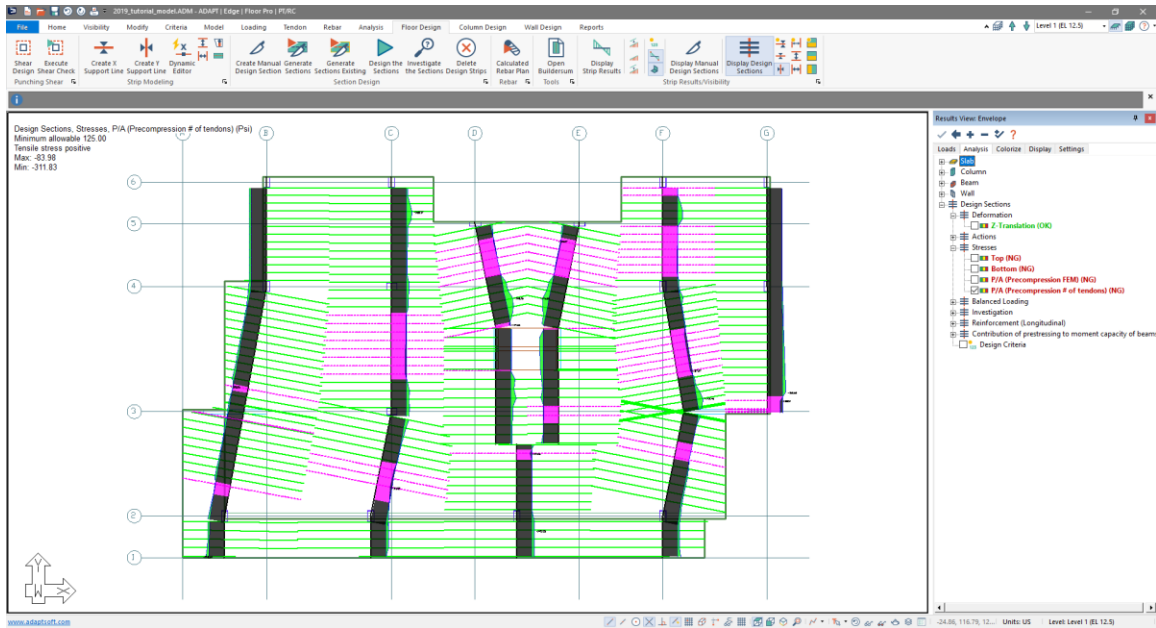

Figure 9-81
- In the *Results Browser Analysis* tab expand the trees to *Design Sections* → *Stresses* → *P/A (Precompression # of tendons)* and check the box next to it. The user should now see on screen the design section results for the support lines in the Y-direction for precompression as shown in **Figure 9-81**.